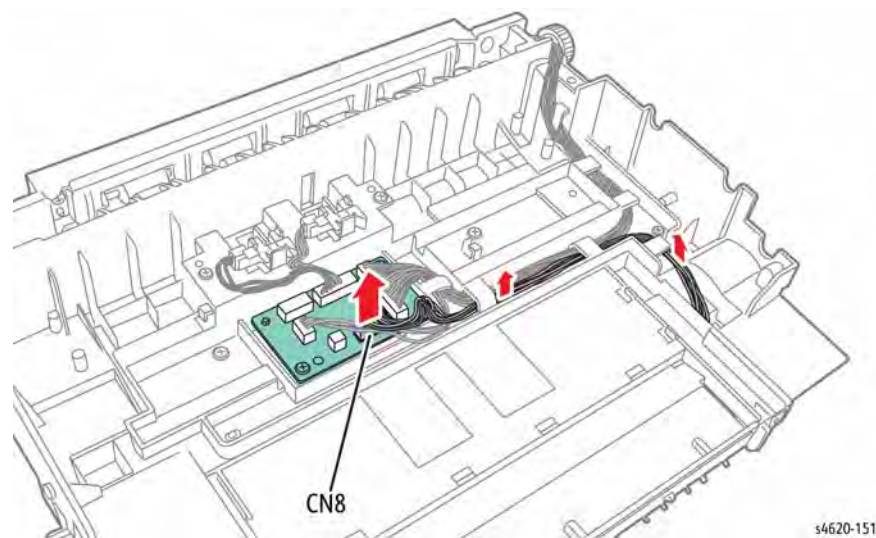

Figure 1 Release the CRUM Connector harness
4. Release the CRUM Connector harness from the harness guides, Figure 1.